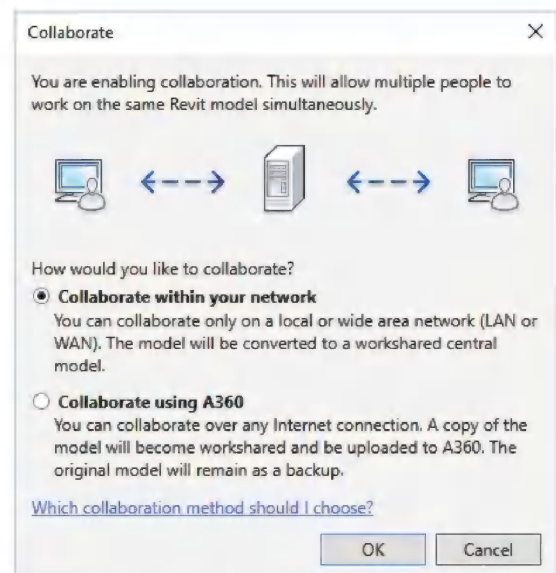

FIGURE 16-2.3 Enabling Worksharing (Collaboration)
- With **Collaborate with your network** selected, click **OK** (Figure 16-2.3)
The option to collaborate using A360, shown in Figure 16-2.3, is a paid cloud service offered by Autodesk to allow design firms from different offices to work on the same Revit model.
Looking back at Figure 16-2.3, notice that modeled elements, if any exist, are divided up between two default Worksets when Worksharing is activated: